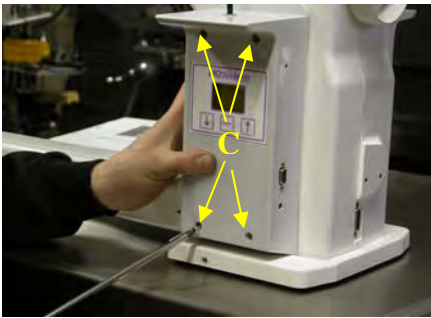

Figure 2.3
3. Remove the “C-pod” by unscrewing the 4 screws C in Figure 2.3. (#2 phillips screwdriver)